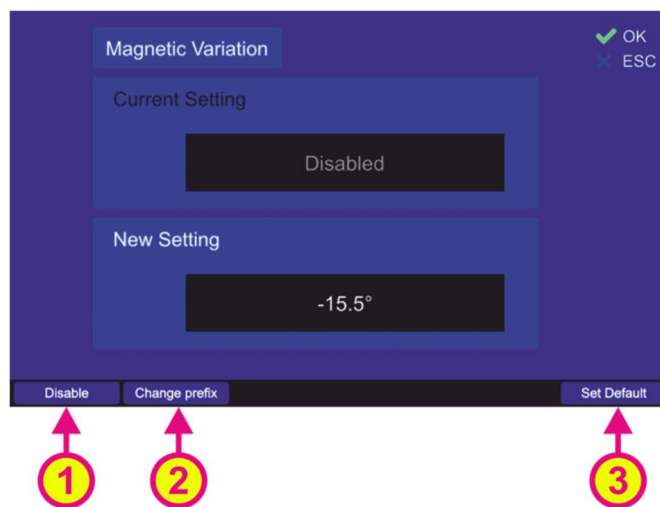

Figure 126. Input of the magnetic variation value.
- Pressing the “Disable” hotkey (s. Figure 126, position 1) deactivates using of the magnetic variation and deletes its current value.
- To change the sign of the degree value, press the “Change prefix” hotkey (s. Figure 126, position 2).
- Press the hotkey “Set Default” (s. Figure 126, position 3) to use the default value (“Disabled”).